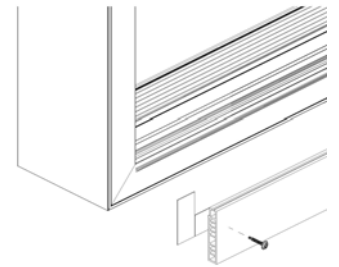

Figure 3C
- Apply a 1/8" bead of clear sealant to the length of the sill. Peel the adhesive tape of the sill up stand and apply it flush to the bottom and side jamb. Fasten the up-stand using (2) #8 x 1" self tapping screws at each end. (1/4" from the edge of the jamb) (See fig. 3C)